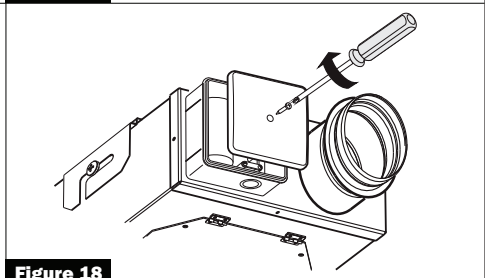

Figure 18
4. Replace the clamping bar, tighten the lug and install the cover on the terminal box. (Figure 18)